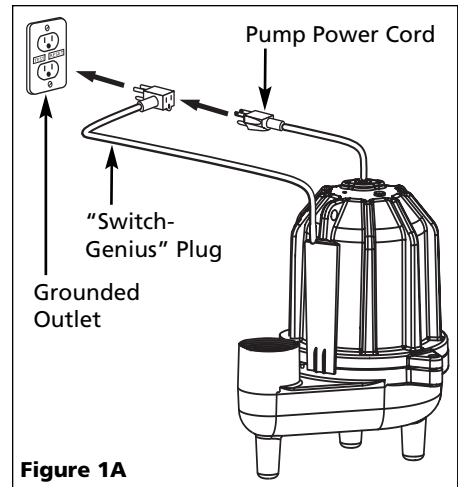

Figure 1A
11. This equipment is only for use on 120 volt (single-phase) and is equipped with an approved 3-conductor cord and 3-prong, grounding-type plug as shown in Figure 1A & 1B.
- Inserting plug directly into a properly installed and grounded 3-prong, grounding-type receptacle (as shown in Figure 1A & 1B).